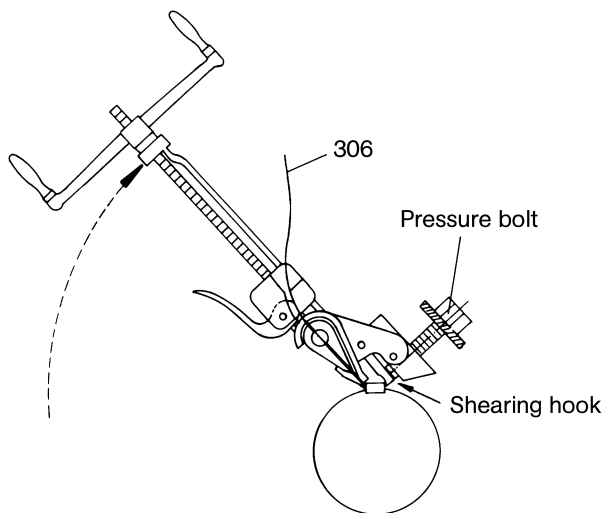

Figure 11: Shearing of the clamping band.
- Check whether on the entire circumference of the cover sleeve (308), the clamping band (306) lies in the sleeve groove.
- Slowly turn clamping tool upwards through approx. 60° until the shearing hook grips behind the clamping band buckle (please refer to Figure 11 below).